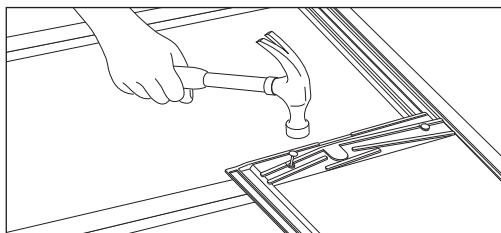

Fig 12 Mechanically fixing Melbourne slates at verge
- 19 Slating should be completed in the normal manner, ensuring that slates which make up the verge are nailed and correctly inserted into the verge section so that the outside face is vertical (Fig 12).